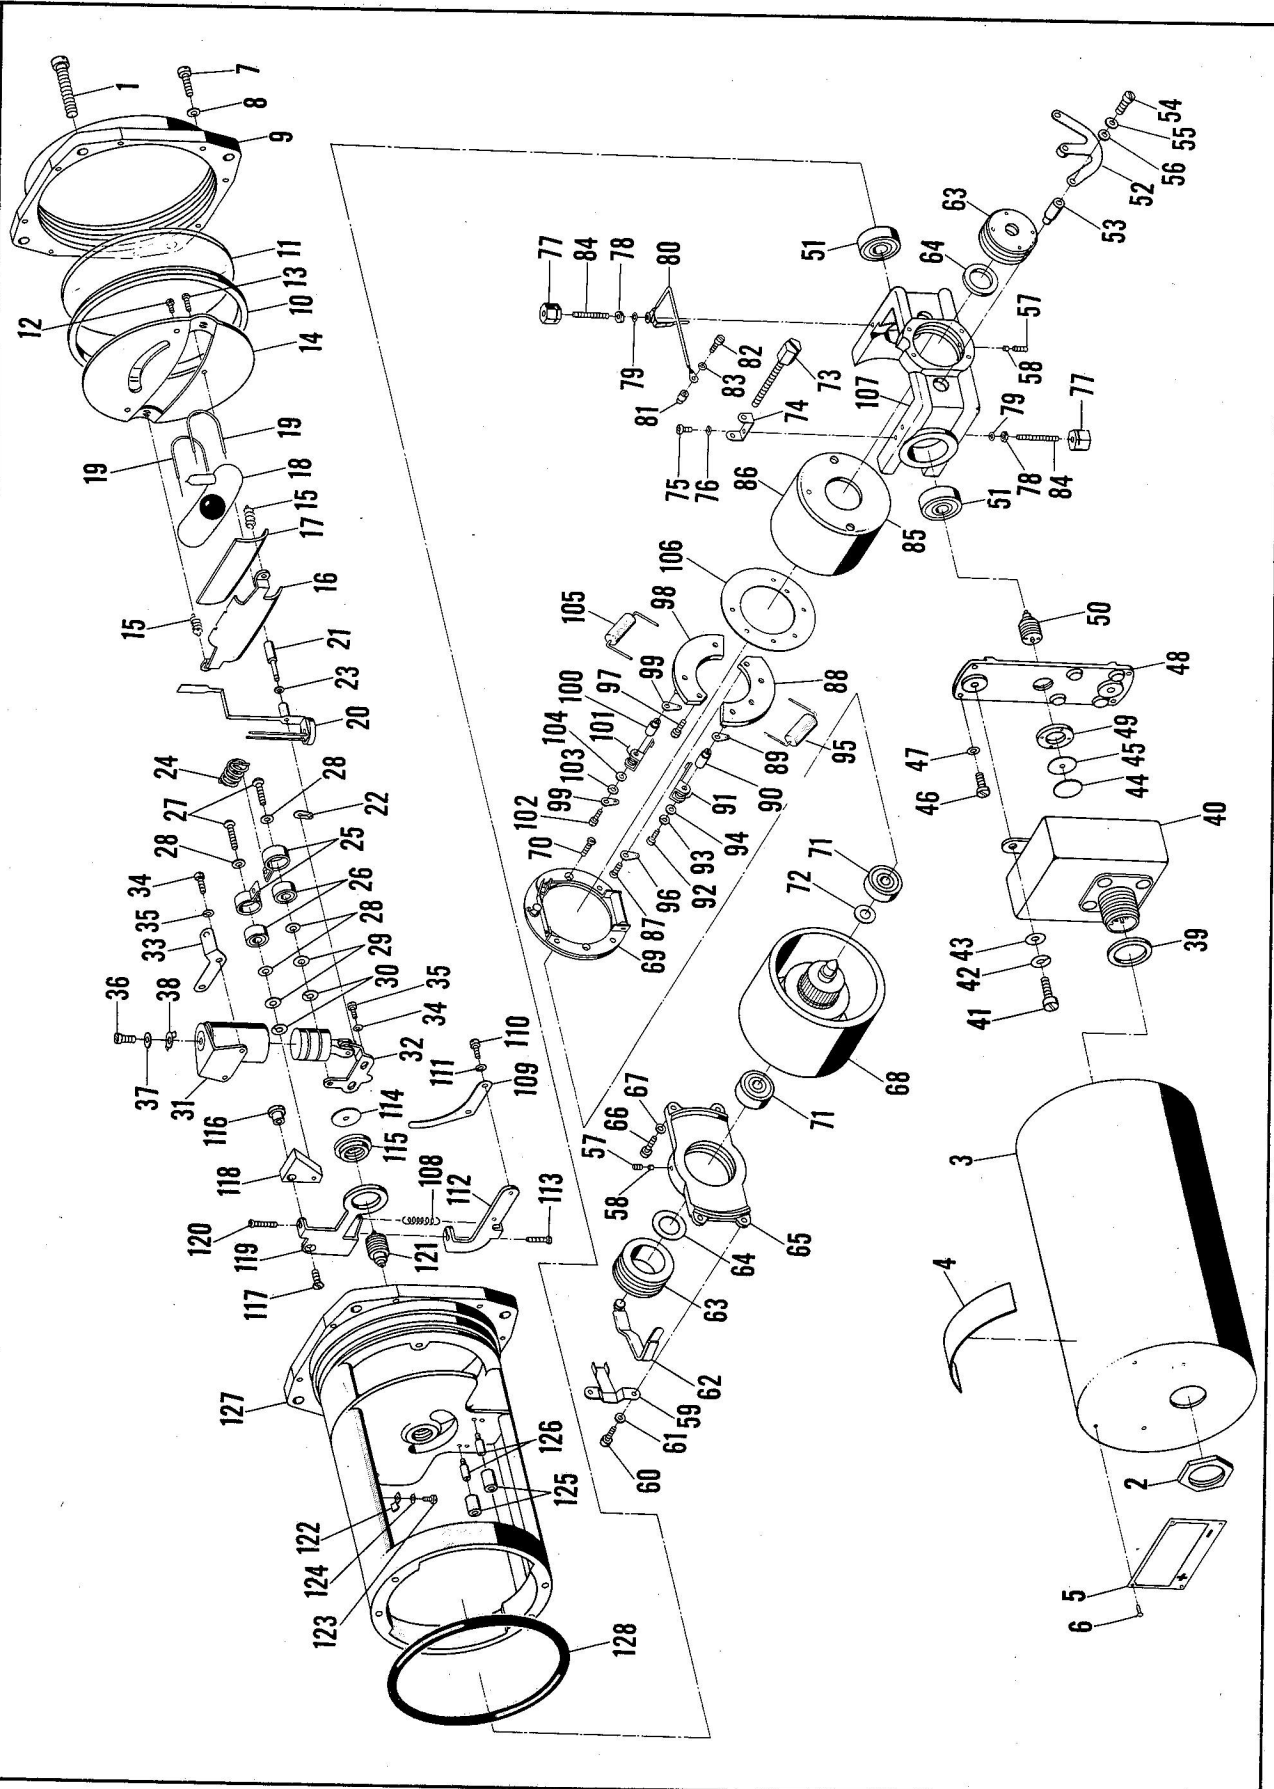
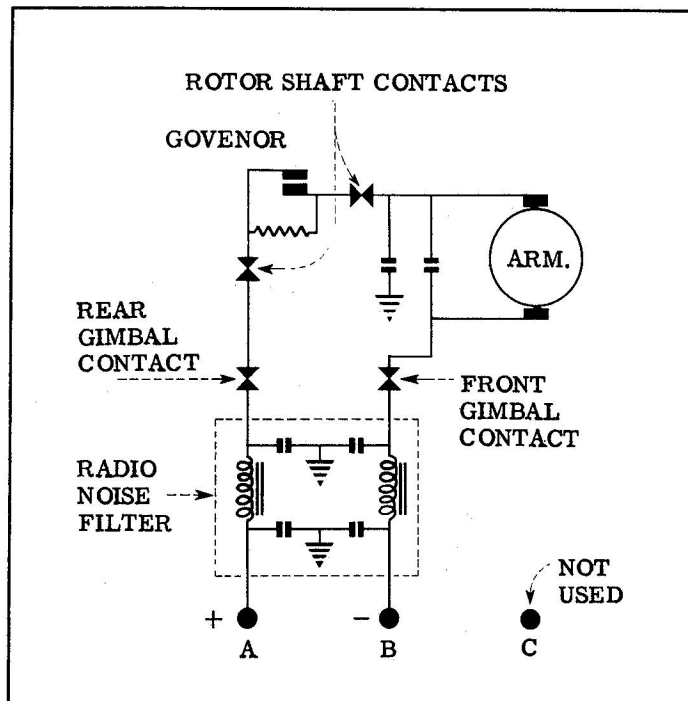

Figure 4-23. Bank and Turn Indicator Assembly, Model B4B-M
Figure 4-24. Wiring Diagram, Model B4B-M
DISASSEMBLY. (See figure 4-23.) Same as Model B4 except that filter assembly (40) replaces individual radio noise filtering components used on Model B4, and insulation (44) is used between insulating washer (45) and the filter assembly. The negative side of the electrical circuit is insulated throughout with insulation (81), and (114), and pivots (90), and (100). Condenser (105) is used between negative brush arm assembly (101) and ground. See figure 4-24 for wiring diagram. Rear plate (48) is mated to frame (127). Gimbal end (65) is mated to gimbal (107).
TEST PROCEDURE. Same as Model B4 except that pointer deflections must be within tolerances listed in Table X. See figure 4-24 for wiring diagram.
KEY FOR FIGURE 4-23